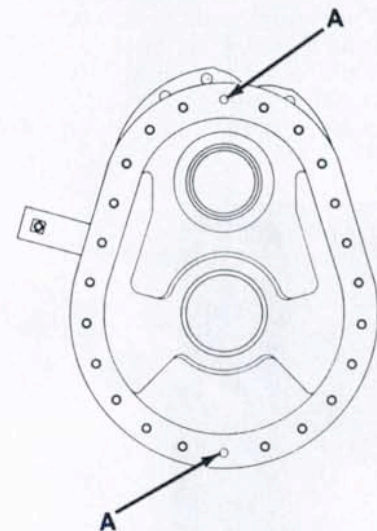

Fig. 136—When reassembling cover to axle case, tighten alignment bolts (A) first, then tighten remainder of mounting cap screws.
When reassembling final drive, install oil seal (14) with lip facing inward. Be sure to reinstall gear shaft (2) and bull gear (8) together. Make certain spacers (7 and 9) are against bull gear and shims (6 and 10) are against bearings. Tighten axle nut (4) to a torque of 150-195 N·m (110-145 ft.-lbs.). Tighten axle cover alignment bolts (A—Fig. 136) first, then tighten cover mounting cap screws evenly to a torque of 48-56 N·m (36-41 ft.-lbs.).
tightening. Tighten axle cover alignment bolts (A—Fig. 136) first, then tighten remainder of cover cap screws evenly to a torque of 48-56 N·m (36-41 ft.-lbs.).
To reassemble final drive reverse the disassembly procedure. Be sure to lubricate oil seal lip with grease prior to reinstalling axle shaft. Tighten axle nut (5) to a torque of 245-295 N·m (180-215 ft.-lbs.). Tighten axle cover alignment bolts (A—Fig. 136) first, then tighten remainder of cover cap screws evenly to a torque of 54-59 N·m (40-43 ft.-lbs.).